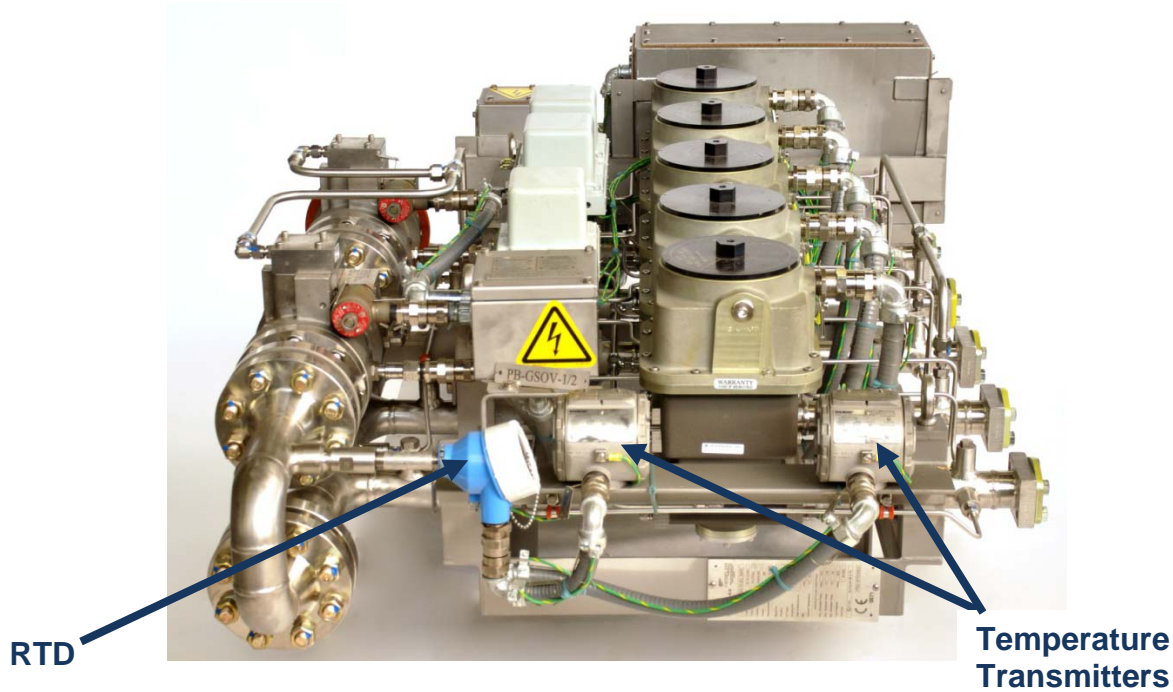

Figure 2-1. Example DLE Skid RTD Location
The RTD example location is shown in Figure 2-1. Actual skid configuration may vary. Consult with installed skid documentation and drawings to determine location of the RTD.
1. Unscrew the RTD cap (white cap shown in Figure 2-1).